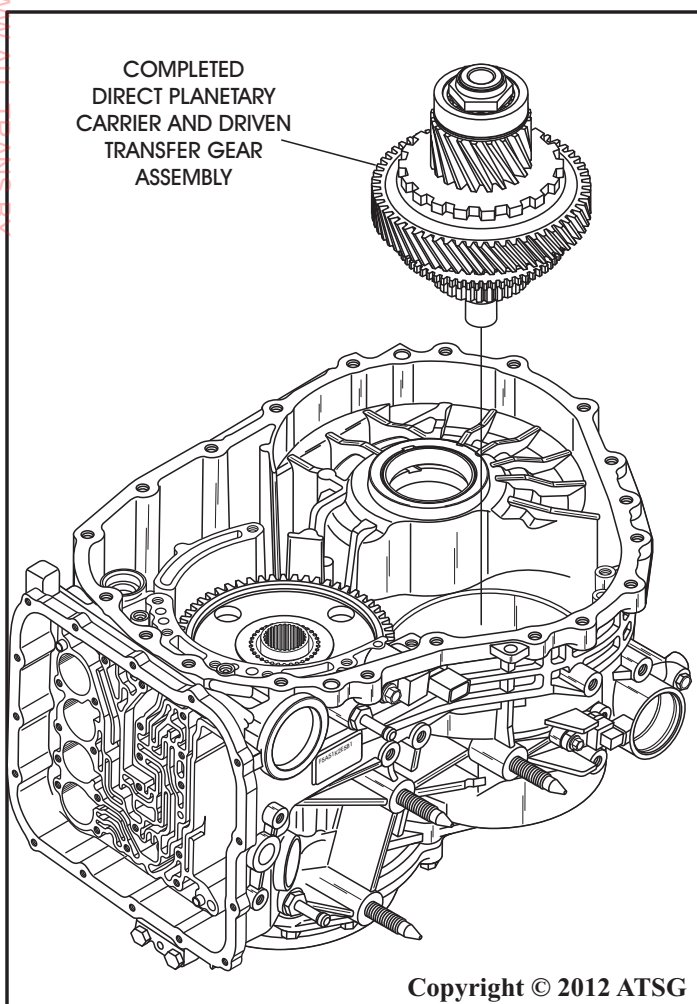

Figure 280
83. Install the completed direct planetary carrier and driven transfer gear assembly, as shown in Figure 280, by rotating back and forth to engage all direct frictions and planetary pinions until it is fully seated.